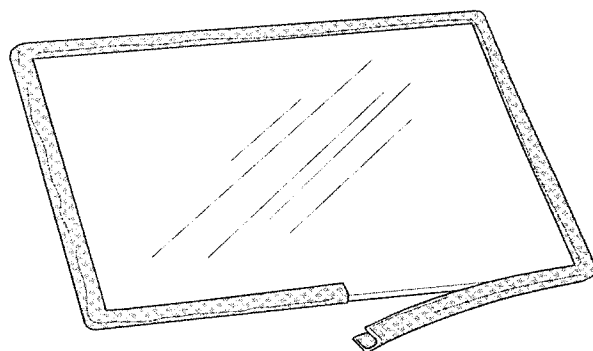

Figure 70.
5. Beginning at the midpoint of the lower edge, apply the new gasket around the glass panel, with the adhesive side inside and the thicker portion on the outside. DO NOT STRETCH THE GASKET MATERIAL. Trim off any excess, leaving a 1/2" overlap as shown in fig. 70.